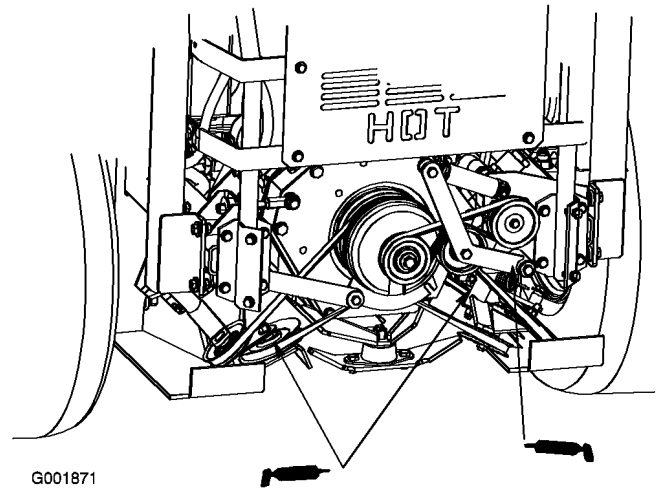

Figure 37
1. Grease the cooling fan belt idler arm (Figure 37).
2. Grease the drive belt idler arms (Figure 37).